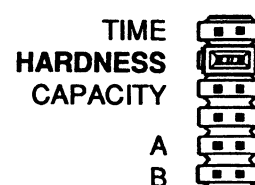

Figure 10
4. Pull the jumper off the top set of pins and place it on the set of pins next to the word **HARDNESS** (Figure 10). Depress the black TIME SET BUTTON until the correct hardness is displayed. The hardness range is from 1 to 99 grains per gallon.
4. Remove screw in locking bar (Figure 10-C).